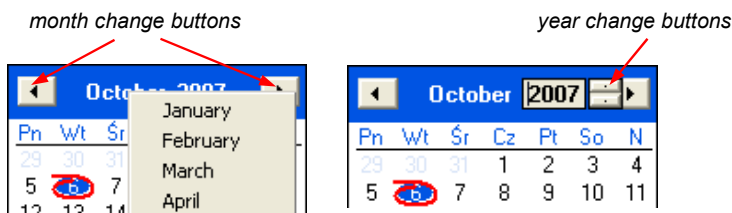

Figure 3.10. Changing months and year
- 2) The date can be change by clicking onto any day in the calendar. Buttons at the top part of the calendar are used to change months (Figure 3.10). After clicking on the current year located to the right from month's name an edition window and buttons for changing the year are displayed (Figure 3.10).